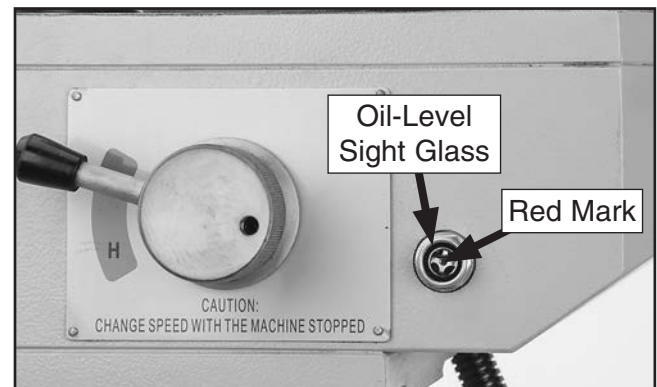

Figure 59. Red mark on sight glass indicates headstock oil level is full.
4. Fill headstock with oil to red mark on sight glass (see **Figure 59**).